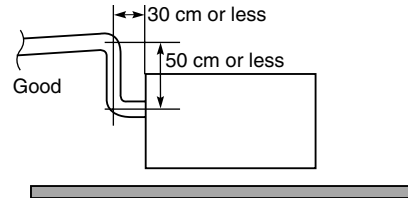

Fig. 3-65-2
- If it is necessary to increase the height of the drain pipe, the section directly after the connection port can be raised a maximum of 50 cm. Do not raise it any higher than 50 cm, as this could result in water leaks. (Fig. 3-65-2)